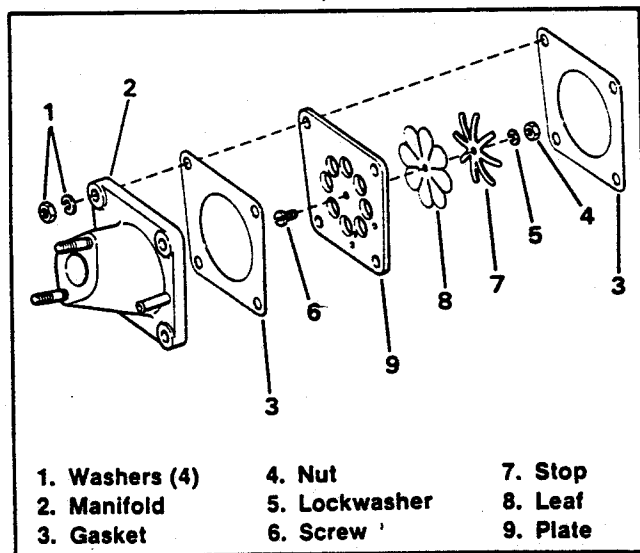

Figure 6-12. Reed Valve and Manifold
DISASSEMBLY (Figure 6-12)
1. See Figure 6-12. Position leaf (8) on side of plate with index hole used for positioning the leaf petals. Align the leaf so the hole is in between the petals.
2. Center the reed stop (7) over the leaf petals. Make sure there is no gap between the plate and leaf. The leaf must lie flat on the plate.
3. Apply a small amount of Harley-Davidson LOCK N' SEAL, Part No. 99625-77 to the screw (6) threads. Install the lockwashers (5) and nut (4). Tighten the nut to 25-30 in-lbs (635-762 kmg) torque.
4. Install the reed valve and gaskets (3) with the leaf stop facing into the crankcase.